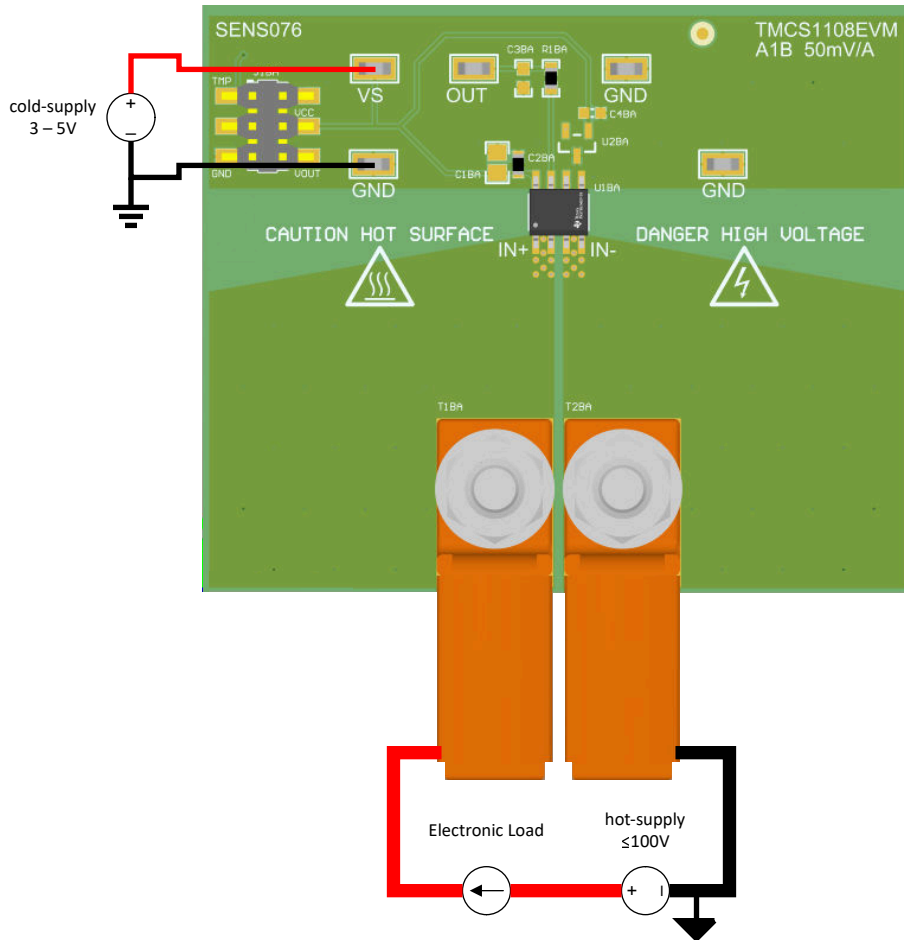

Figure 4-1. Low-Side Forward Current Setup
The following are instructions to set up and use the TMCS1108EVM. For the following instructions, $y = A$ to D for the A1 to A4 gain variants, respectively. Figure 4-1 shows an example of a simple, low-side forward current setup on the A1B (50 mV/A) gain variant. Reverse current can be measured on the TMCS1108nB devices by switching the placement of the hot-supply and electronic load along with reversing their polarities. The EVM has isolation, and external supplies are distinguished by hot for load and cold for DUT supply. The hot supply can be isolated and at a different potential than the cold supply.
1. According to Figure 4-1, for a low-side measurement, connect the electronic load positive input terminal to the positive terminal of a 30-A capable hot-supply. For a high-side measurement, connect the electronic load positive input terminal to the load sourcing terminal (IN+ or IN-) of the EVM. For high-side measurement of forward current, IN- sources to the electronic load; for reverse current, IN+ sources to the load.